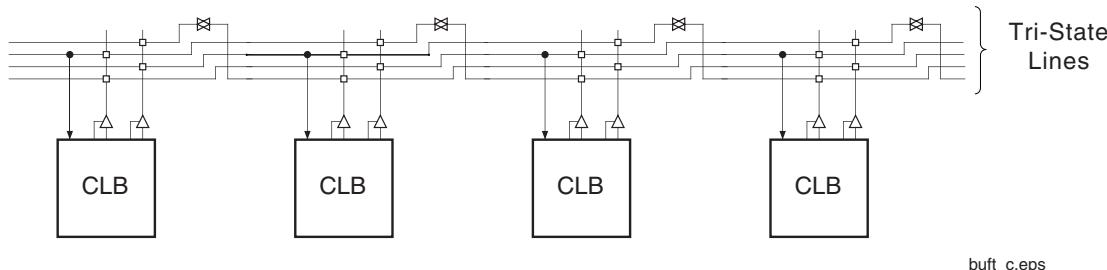

Figure 8: BUFT Connections to Dedicated Horizontal Bus Lines
- Horizontal routing resources are provided for on-chip 3-state buses. Four partitionable bus lines are provided per CLB row, permitting multiple buses within a row, as shown in Figure 8.